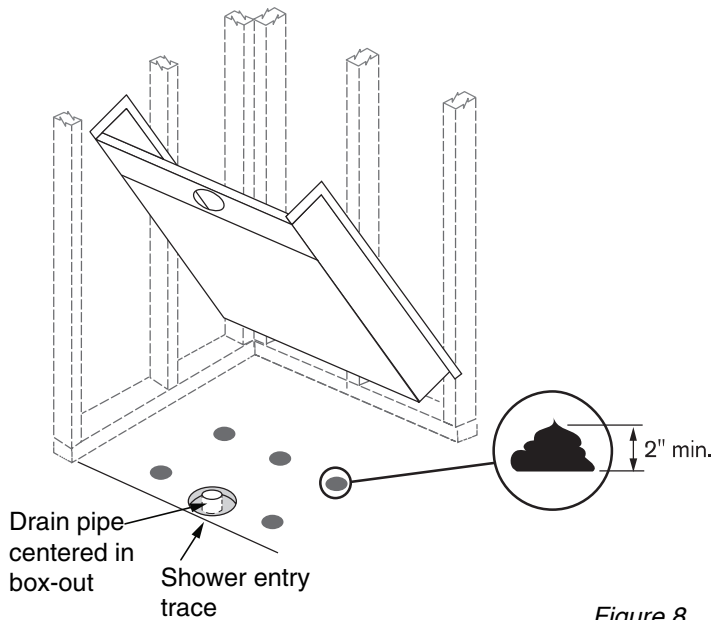

Figure 8
- 4 Once the unit is level and the slope has been verified, draw a line on the floor along the shower entry. Then prop the pan up as shown in Figure 8. At this point, have a plumber install the drain fitting in the pan bottom and prepare the drain pipe to receive the drain (see page 5 step 9-12). **DO NOT LET THE PAN REST ON THE DRAIN.** This will cause the shower bottom to deform.